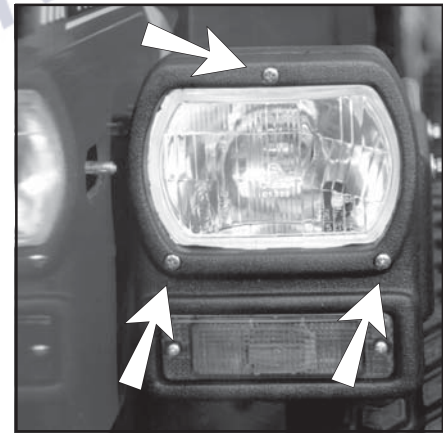

Fig. 66
- adjust lights by operating on the lights fastening three front screws (Fig. 66).